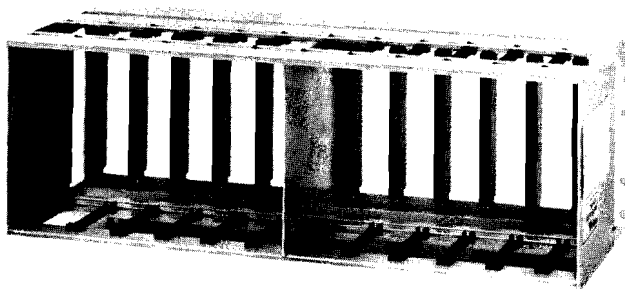
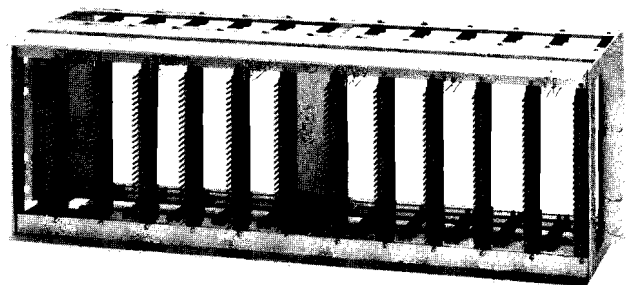

figure 1. Type 10 Shelf for relay-rack installation
figure 3. Rear of Type 10 Shelf
1.01 The Type 10 Mounting Shelf (figures 1 and 2) provides relay-rack or apparatus-case mounting for Tellabs Type 10 printed circuit modules. These modules plug into 56-pin card connectors at the rear of the shelf. Gold-plated, bifurcated contacts in these connectors ensure positive contact with each module. Connections between modules and to equipment external to the shelf are made via wire-wrapping pins on the back of the shelf (figure 3).